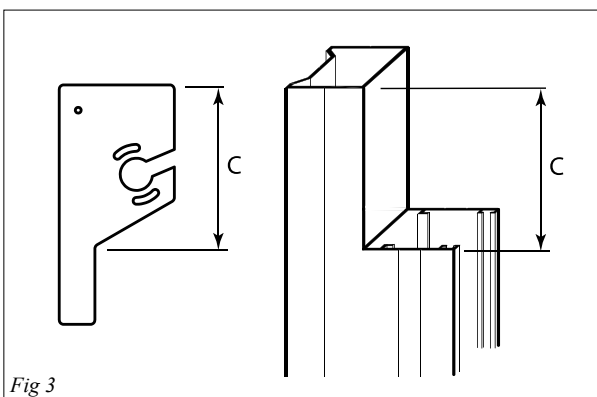

Fig 3
- 4) Notch the top of the side channel to suit the roller bracket (*fig. 3*).